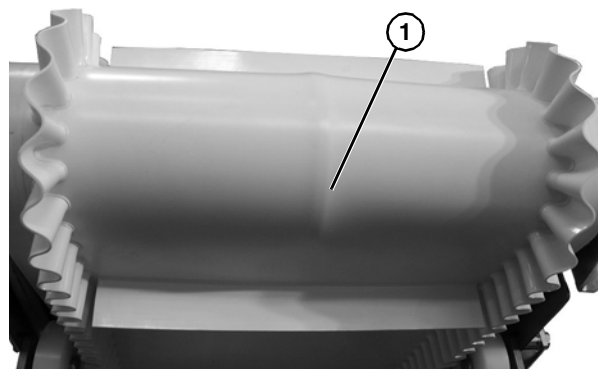

Figure 54
For v-guide belts, track until the bulge in the conveyor belt (Figure 54, item 1) lies flat.